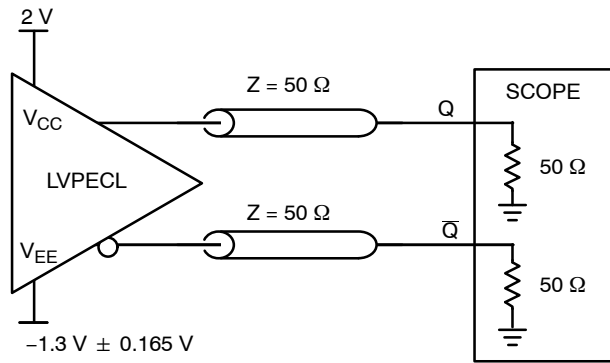

Figure 4. Output Load AC Test Circuit (Split Power Supply)
2. Outputs terminated with  $50\ \Omega$  to  $V_{CC} - 2.0\text{ V}$ . See Figures 4 and 12.
4. Output terminated with  $50\ \Omega$  to  $V_{CC} - 2.0\text{ V}$ . See Figures 4 and 12.